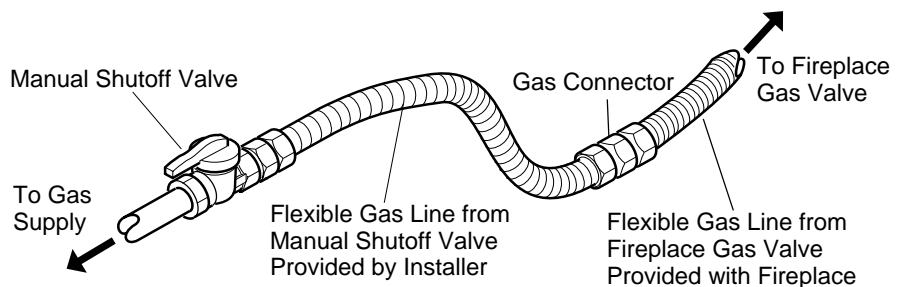

Figure 25 - Attaching Flexible Gas Lines Together
NOTICE: Most building codes do not permit concealed gas connections. A flexible gas line (see Figure 25) is provided to allow accessibility from the fireplace. The flexible gas supply line connection to the manual shutoff valve should be accessible.
4. Apply pipe joint sealant lightly to male threads of gas connector attached to flexible gas line (see Figure 25). Connect flexible gas line to flexible gas line attached to gas valve of fireplace (see Figure 25).